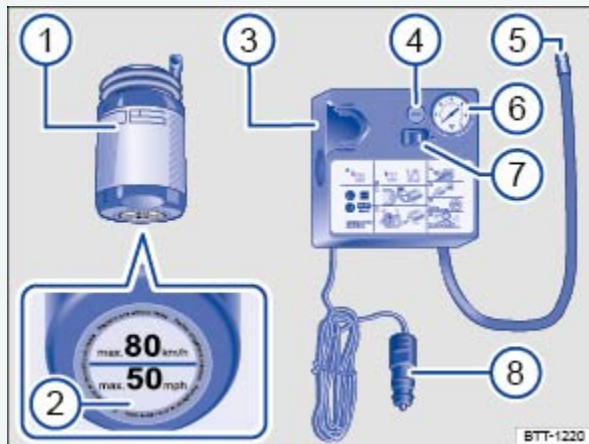

Fig. 230 Basic diagram: Contents of the tire mobility set.
The tire mobility set may be stored in one of several places in the luggage compartment (for example, in the side storage compartment or under the floor covering). It contains the following ⇒ *Fig. 230*:
- Vigorously shake the tire inflation cylinder ⇒ Fig. 230① a few times back and forth.
- Tightly screw the inflation hose on the air compressor ⇒ Fig. 230② to the valve on the top of the sealant cylinder.
- Tightly screw the filling hose from the tire inflation cylinder ⇒ Fig. 230① to the tire valve.
- Hold the cylinder with the bottom pointing up and insert the top of the cylinder into the notch in the air compressor ⇒ Fig. 230③.
- Insert the 12 Volt plug ⇒ Fig. 230④ into one of the vehicle's 12 Volt sockets ⇒ Power outlets.
- Switch the air compressor on using the ON/OFF switch ⇒ Fig. 230⑤.
Connect the inflation hose ⇒ Fig. 230 from the air compressor to the tire valve and read the tire pressure on the tire pressure gauge ⑥.